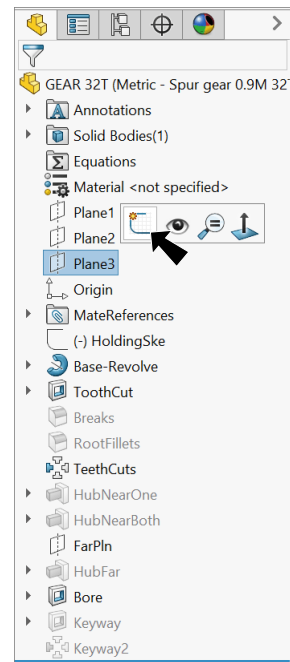
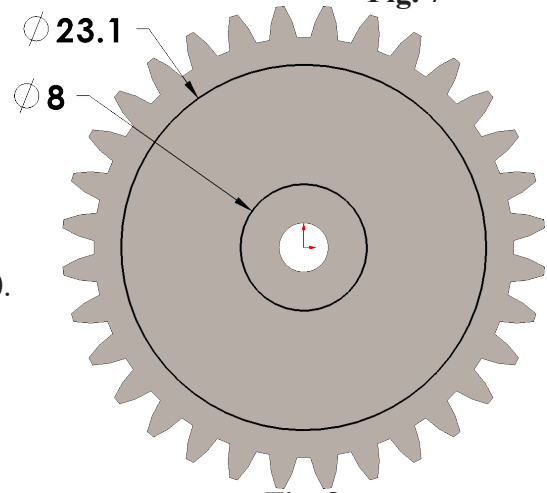

Fig. 7
Fig. 8
Step 1. Click **Plane3**  in the Feature Manager and click **Sketch**  on the context toolbar, **Fig. 7**.
Step 2. Click **Circle**  (S) on the Sketch toolbar.
Step 3. Sketch **two circles at Origin** , **Fig. 8**.
Step 4. Click **Smart Dimension**  (S) on the Sketch toolbar.
Step 5. Dimension **diameters 23.1 and 8**, **Fig. 8**.